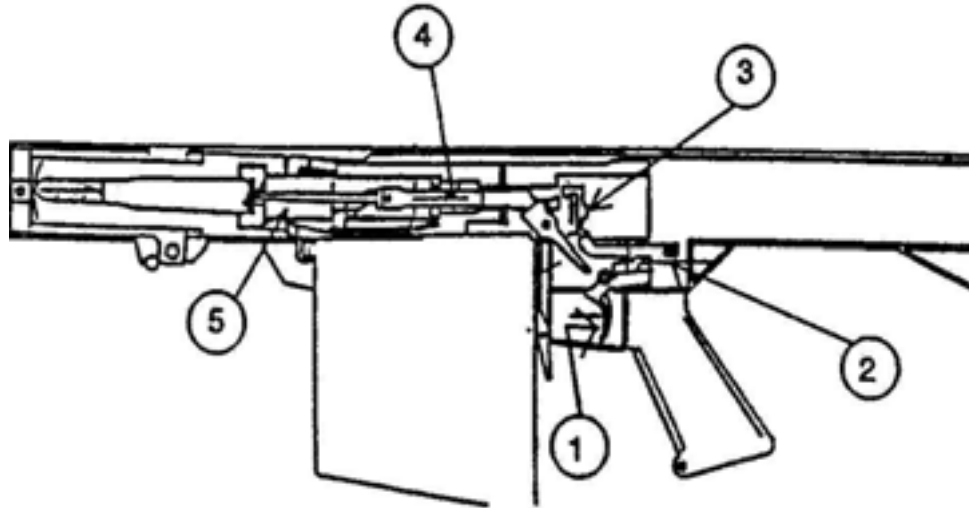

Figure 1-7. Firing Procedures
1.3.5 FIRING. The trigger (1), Figure 1-7, pivots on the trigger housing pin and presses on the transfer bar (2), causing the bar to rise. The transfer bar engages the sear (3) (housed in the bolt carrier), forcing it upward and out of engagement with the firing pin extension (4). The firing pin extension, under spring power, forces the firing pin (5) forward to strike the primer of the cartridge.